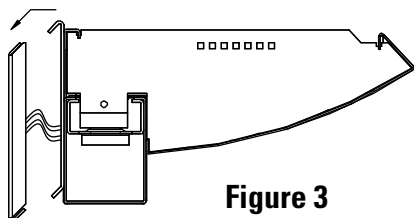

Figure 3
C. Hang fixture on the wall mounting plates. (Fig. 3)